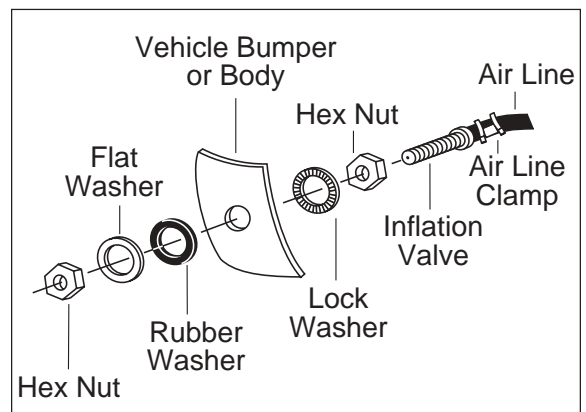

Figure 11
- j. Drill a  $\frac{5}{16}$ " hole for inflation valve and mount as in illustration (Figure 11). Rubber washer is for outside weather seal.
- g. Drill  $\frac{5}{16}$ " hole for inflating valves and mount as illustrated. Rubber washer is for outside weather seal (Figure 11).